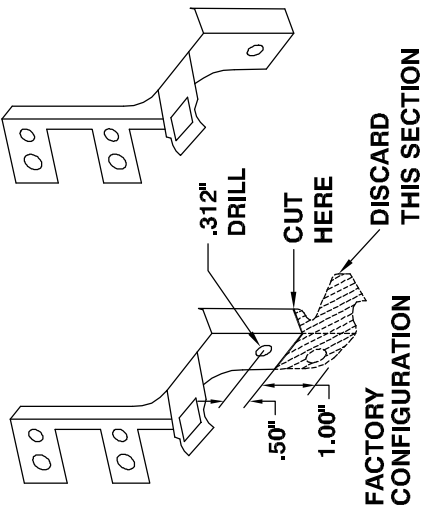

FIG. 5
6. Assemble the bracket as indicated in Fig. 5.
7. Bolt pump (7) onto pump plate (1) with two 3/8 x 1 1/4 bolts (17) and two 3/8 flat washers (18). Torque to 20 ft-lb. Attach coil (8a) with four 1/4 x 1/2 flange bolts supplied with clutch. Torque these to 6 ft-lb. Attach clutch pulley (8b) to pump shaft with 5/16NF x 1 1/4 bolt and heavy washer supplied with clutch. Torque to 14 ft-lb.
9. Attach the idler pulley (9) and bushing (4) to the front of the pump mount bracket (1) with the M10 x 60 bolt (15). Torque to 19-25 ft-lb.
10. Attach the tensioner (6) to the tensioner bracket (3) with the M12 x 75 bolt (16).
11. Attach the pump mount bracket (1) to the engine with the OEM stud bolt (13) at location A and the M10 x 60 bolt (12) at location B. Torque these bolts to 19-25 ft-lb.